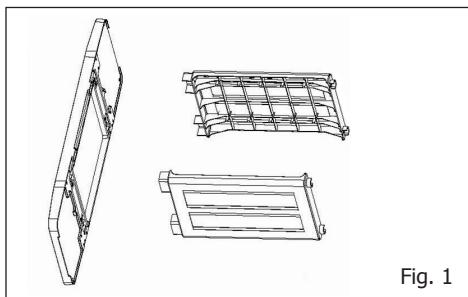
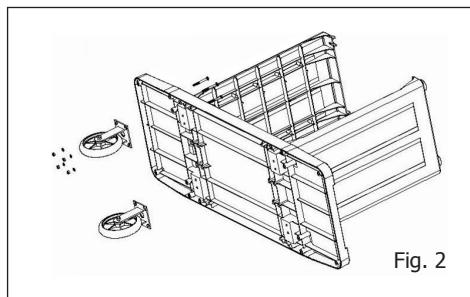

Fig. 1
Fig. 2
- Place side boards into bottom boards then screw them onto wheels with parts B,G & J. (Fig.1, Fig. 2)